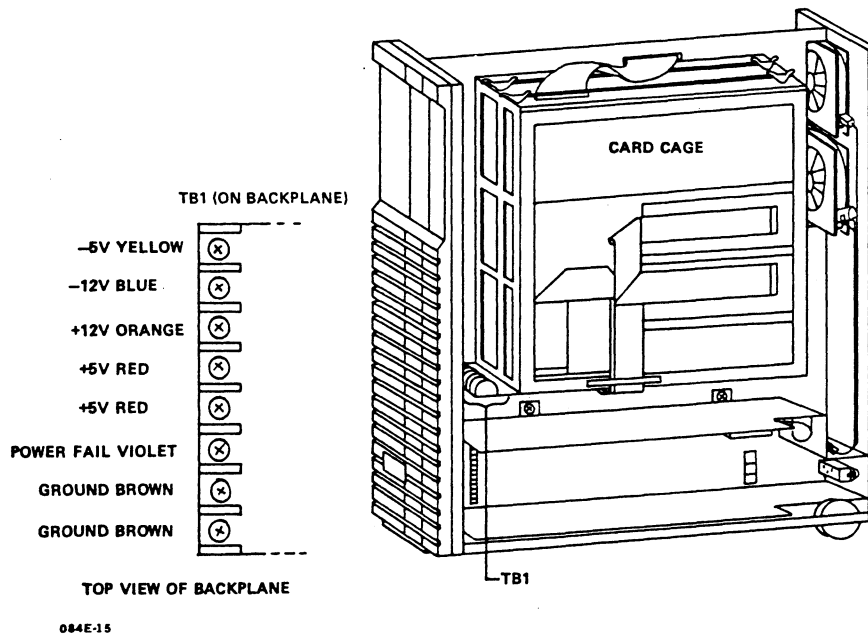

Figure 2-10. Measuring Voltages
18. Measure the voltages (see Figure 2-10).